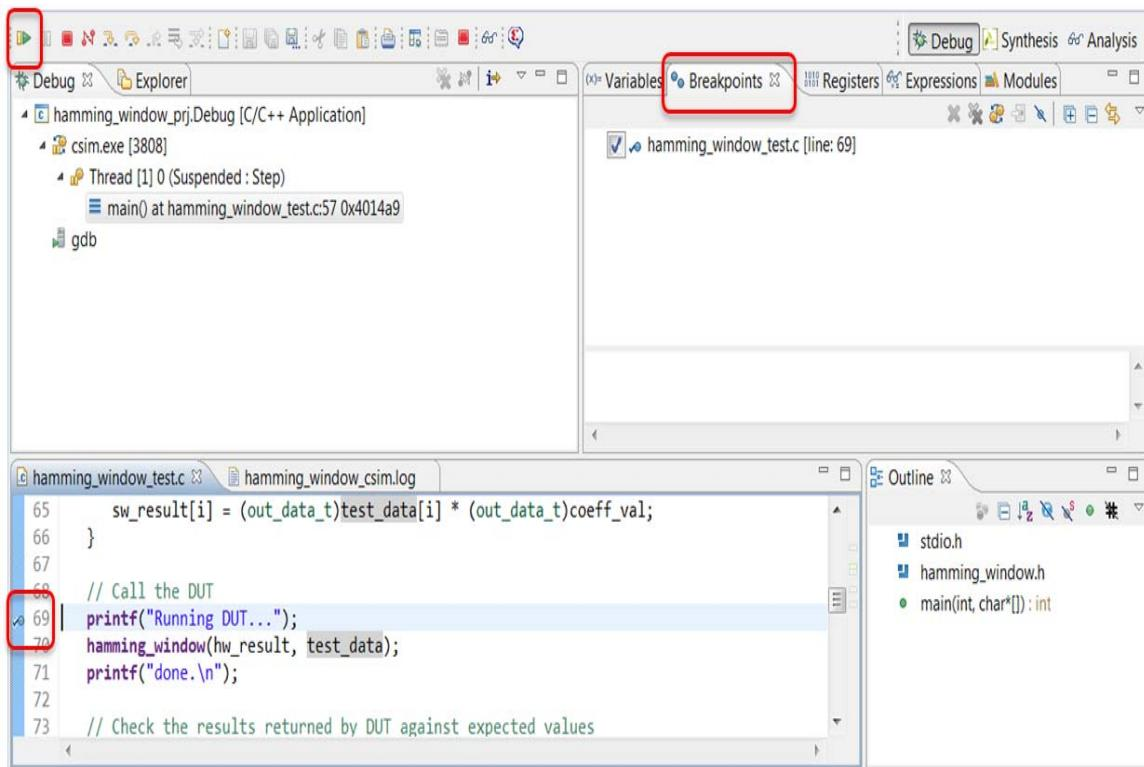

Figure 3-11: Using Breakpoints
8. Place the cursor in the left-hand margin on line 69, right-click with the mouse button and select Toggle Breakpoint. A breakpoint (blue dot) is indicated in the margin, as shown in Figure 3-11.
10. Activate the Breakpoints tab, also shown in Figure 3-11, to confirm there is a breakpoint set at line 69.
11. Click the **Resume** button (highlighted in Figure 3-11) or the F8 key to execute up to the breakpoint.